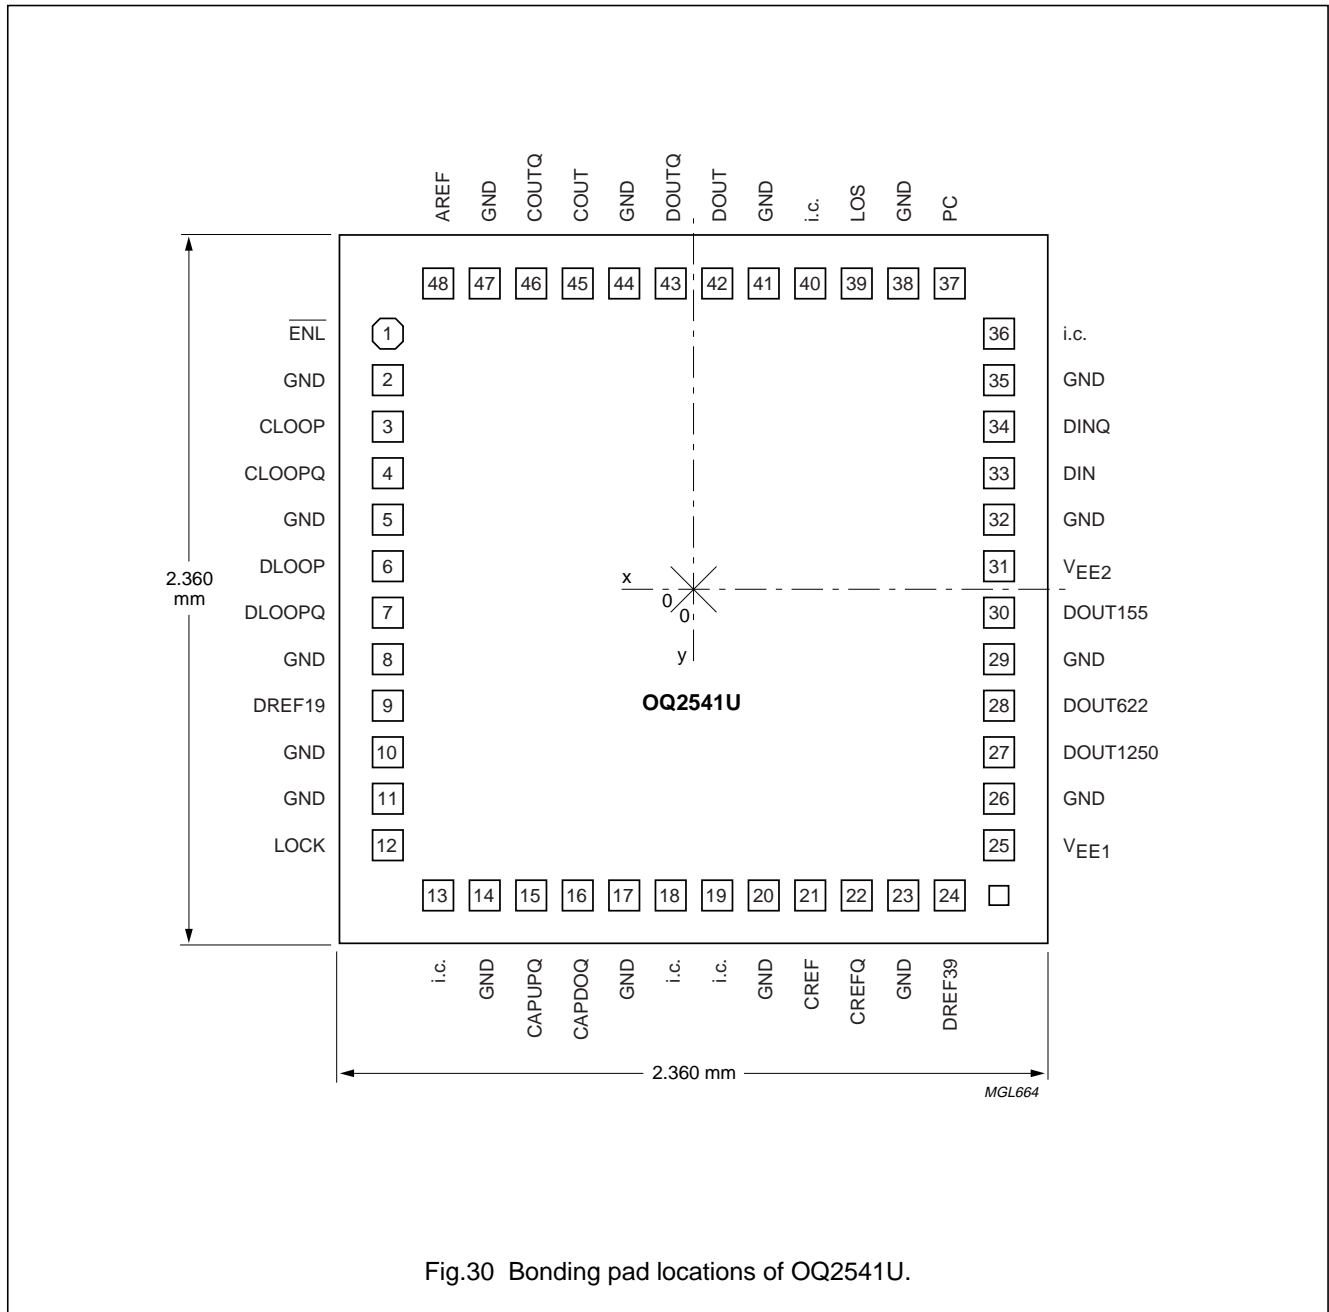

Fig.30 Bonding pad locations of QQ2541U.
- All x and y coordinates represent the position of the centre of the pad in  $\mu\text{m}$  with respect to the centre of the die (see Fig.30).